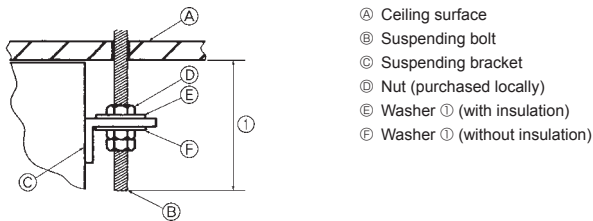

Fig. 3-5
- Ⓔ Washer ① (with insulation)
- Ⓕ Washer ① (without insulation)
4) Indoor unit preparation (Fig. 3-5)